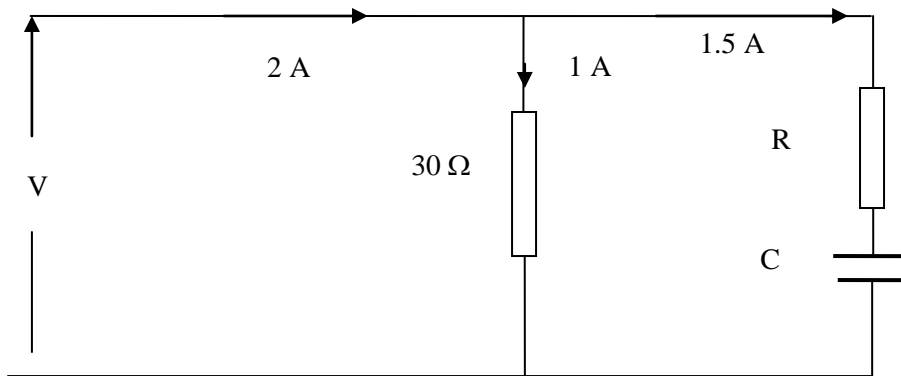

Fig Q4
- (b) the time for the capacitor to become fully charged; (2)
- (c) the time taken for the capacitor to charge to $12\ \text{V}$; (3)
- (d) the voltage across the capacitor after $25\ \text{ms}$ of charging; (3)
- (e) the peak discharge current; (2)
- (f) the discharge current after $5\ \text{ms}$; (2)
- (g) the voltage across the capacitor after $5\ \text{ms}$ of discharge. (2)
- (a) Plot a dissipation curve of $16\ \text{Watts}$ on the characteristics. (6)
- (b) Determine, by superimposing a suitable load line on the characteristics, the minimum safe value of collector load resistance which may be used with a supply voltage of $12\ \text{V}$. (6)
- (c) Determine from the characteristics the variation in collector current when a signal of $\pm 40\ \text{mA}$ is applied to the base if the bias is fixed at $60\ \text{mA}$. (4)
4. The circuit shown in Fig Q4 is supplied from a 400 Hz a.c. supply.